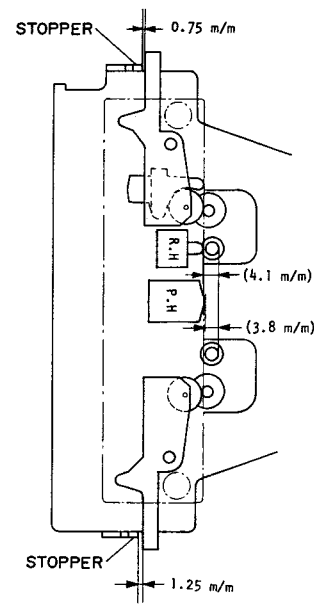

Fig. 6.16. Pressure Roller Adjustment
- (1) Check to insure whether any of the heads is not in contact with the cassette housing.
- (2) Check to insure whether the pressure roller is located in parallel with the capstan shaft (Also check to insure whether the heads are free from dust or dirt, and whether the pressure roller arm is free from bending).
- (3) Check to insure whether the surface of the pressure roller is globular, not straight. Other than the above, concaved, or oiled surface shall be subject to replacement.
- (4) The pressure of the pressure roller shall be  $400 \text{ g} \pm 50 \text{ g}$ .
- (5) Adjustment of Pressure Roller Timing.
- a. Refer to Fig. 6.16.